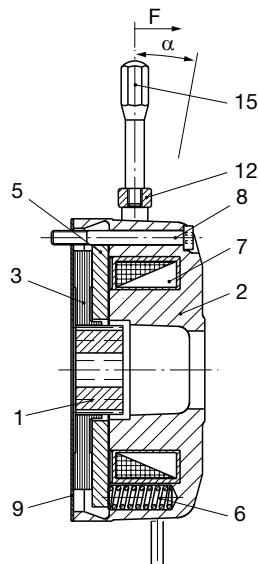

Fig. 2
- ❑ The positional tolerance of the threaded holes for the cap screws (Item 8, Fig. 2) must not exceed 0.2 mm.